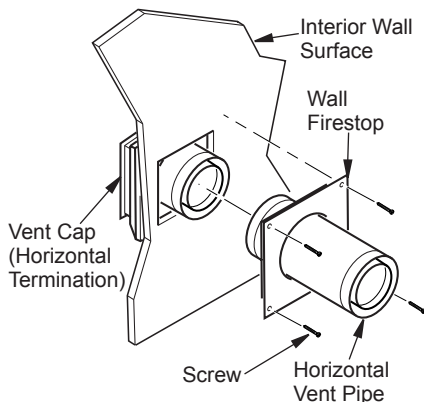

Figure 13 - Connecting Vent Cap with Horizontal Vent Pipe
Note: Four wood screws provided should be replaced with appropriate fasteners for stucco, brick, concrete or other types of sidings (see Figure 13).
- Connecting Vent Cap with Horizontal Vent Pipe:** Slide wall firestop over vent pipe before connecting horizontal run to vent cap (see Figure 13).